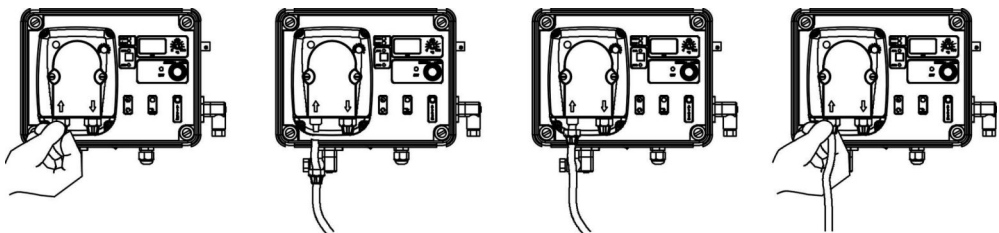

Fig. 4
1. **Disconnect the pins from the mains or by means of a two poles switch with 3 mm minimum distance between the contacts. (Fig. 4).**
1. Disconnect the pins from the mains or by means of a two poles switch with 3 mm minimum distance between the contacts. (Fig. 4).
- d.- Slide the hoses over the nipples, pushing them right home and then fix them with appropriate tube nuts (Fig.4).